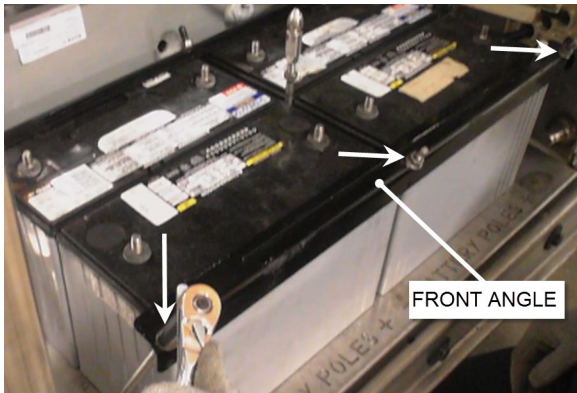

FIGURE 51: REMOVE THE FRONT ANGLE
5. Unscrew three nuts (indicated with arrows) and then remove the front angle (FIGURE 51).